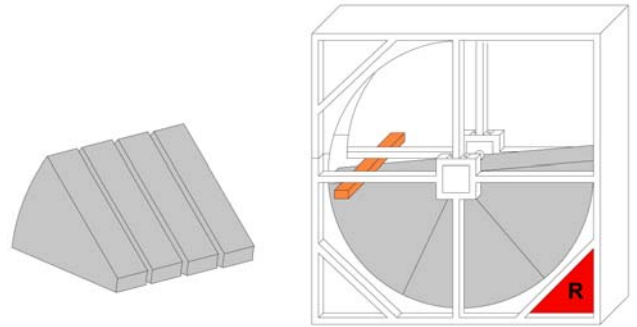

Figure 6
- The already mounted rotor part needs to be blocked by a timber beam or by timber beams before installing the next segment. (Figure 6)